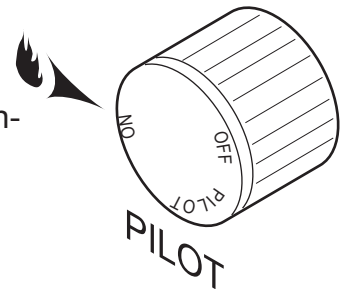

Figure 44 - On Position
Depress and turn the knob counterclockwise  to the “ON” position. *Figure 44*. It will take less than four (4) seconds for the burner to ignite.